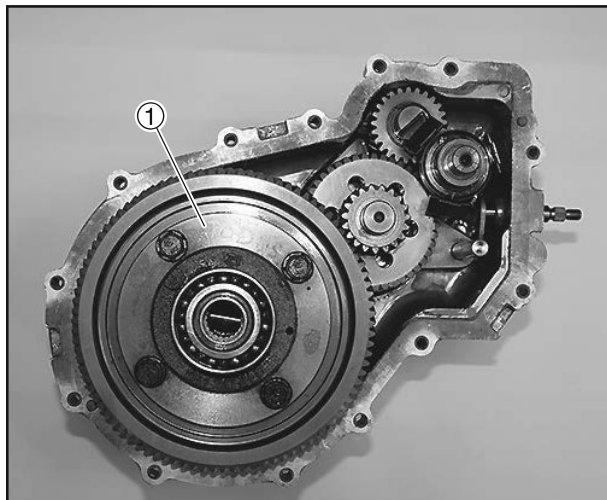

Figure 6-72
5. Remove the differential assembly with the ring gear (Figure 6-72, (1)).